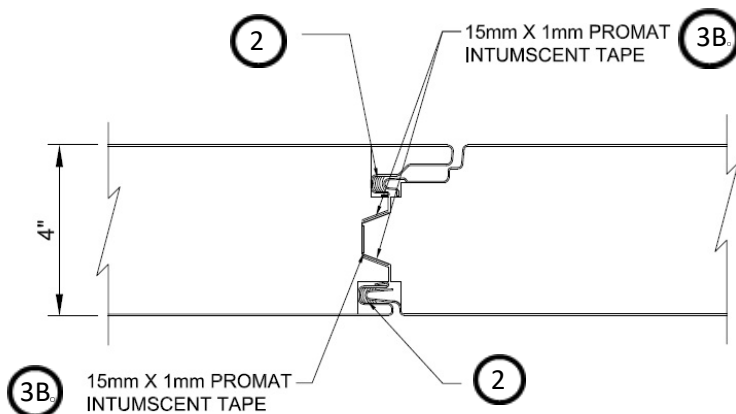

Figure 1. 4-in. Panel Intumescent Installation
- B. **OPTION 2** – Refer to Figures 1, 2, and 3. Apply a layer of 1 mm thick Promat Promaseal®-LW Intumescent Tape in the interlocking joints of the mineral wool core of each panel prior to joining the panels, as shown in the drawings below with widths and locations specified.